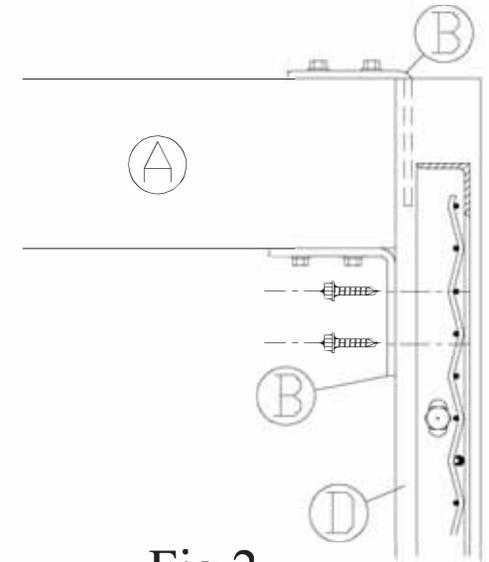

Fig.2
5. Lift ceiling tube (A) above the partition wall post (D) and lower into place so that the top bracket fits inside of wall post (D) Per Fig 2.
6. Align ceiling tube(A) with wall post(D) and secure lower bracket to post using self drilling screws see Fig.2